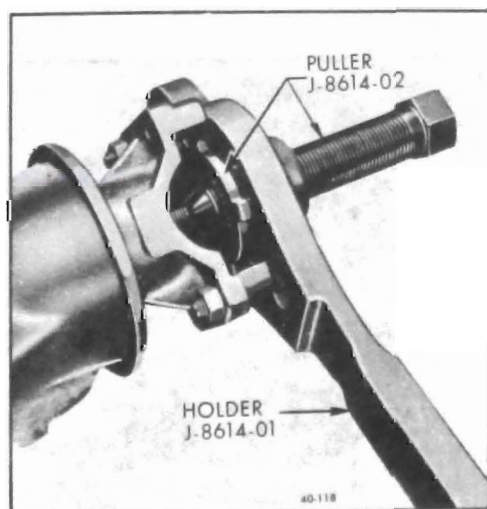

Figure 40-137 46-48000 Removing Pinion Flange
3. Pull flange from pinion using Puller J-8614-02 in Holder J-8614-01. (On 49000 use Puller J-8614-02 in Holder J-8614-01 with Adapters J-21619.) To install puller, back out puller screw, insert puller through holder, and rotate 1/8 turn. See Figures 40-137 or 40-138.